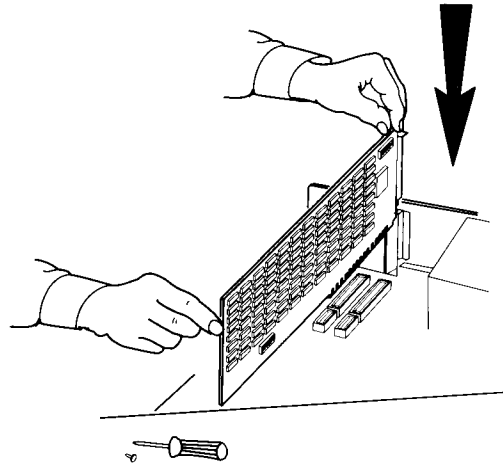

Figure 3-5 ▶ **Installing the RAM 3000 Deluxe**
4. Hold the RAM 3000 Deluxe by its edges, gently slide the board into the expansion slot as shown in Figure 3-5.